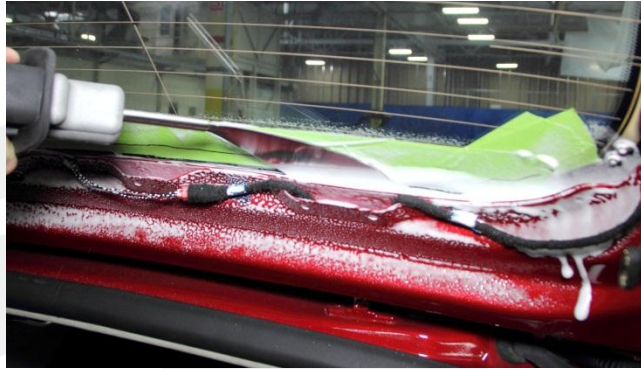

Figure 9
2. Position the tool at a 45 degree angle along the rightmost edge of the top line of urethane. Start cutting the urethane, moving the cutting tool from right to left while an assistant continues to spray the soap and water solution to lubricate the urethane (Figure 9).